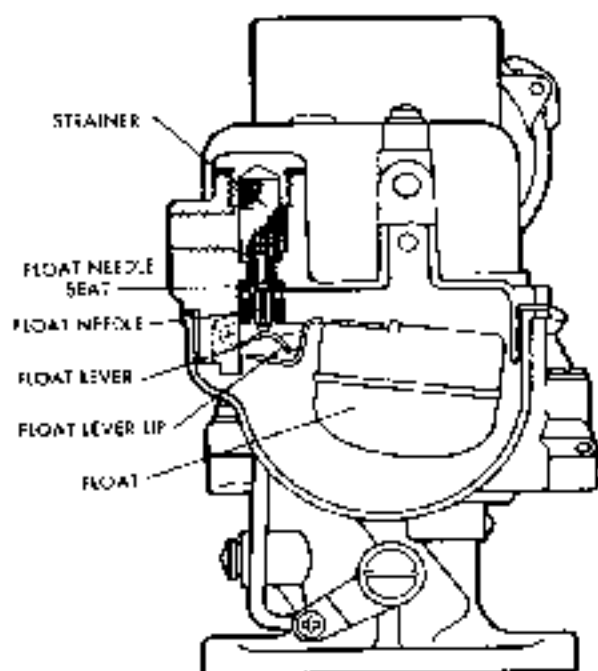

FIG. 223.—FLOAT SYSTEM
• The Carter Carburetor used on the Champion employs five systems during the full range of its operation. Figures 223 through 227 name and fully illustrate these systems.